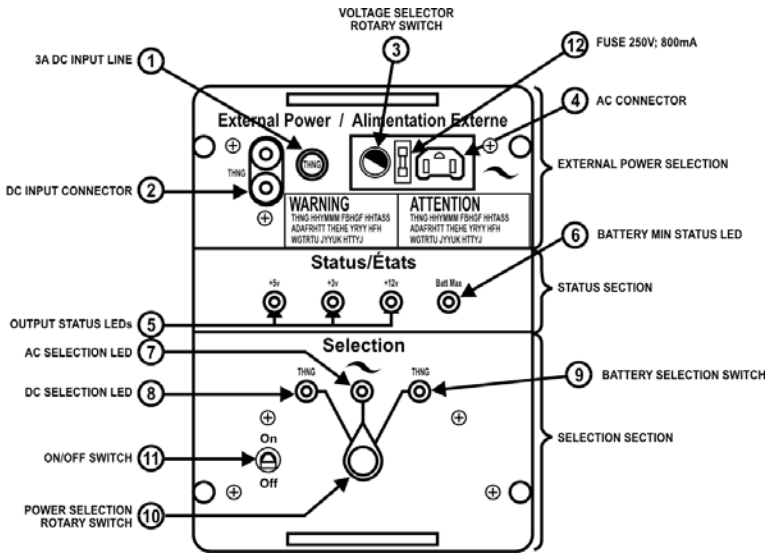

Figure 6-9: ETSVCS Power Supply
- a. **Power supply** (see Figure 6-9) allows the ETSVCS to operate on 12 or 24 V DC and on 110 or 220 V AC. Its external battery provides at least 3 hours of continuous operation. The power supply interface panel is divided into three sections:
- (1) **External power section** which includes the AC and DC input connectors for the power cords. The DC portion has a 3 A input protection fuse. The AC connector assembly includes a 250 V 800 mA input protection fuse and a rotary switch to select the AC supply voltage (110 or 220 V).
- (2) **Status section** which includes four LEDs indicating the presence of the ETSVCS power supply output voltage:
- (3) **Selection section** which includes ETSVCS “ON/OFF” switch with an integrated locking mechanism, three LEDs to indicate (when on) which power sources are available, and a rotary switch to select the desired power source to operate the ETSVCS (DC, AC or Batt).
- d. Position the ETSVCS power supply selection rotary switch to the desired/available power source (AC, DC or BATT—see Figure 6-9).
15. The battery selection LED (when ON) indicates that there is enough energy in the battery to operate the ETSVC. Depending on the energy level of the battery, the capacity will vary from 5 minutes to approximately 3 hours of continuous operation. Choosing AC for an alternate power source will permit the ETSVCS to recharge the battery while being operated. The recharging time however will be approximately four times longer. The following explains the battery check and charging procedure step by step (see Figure 6-9):